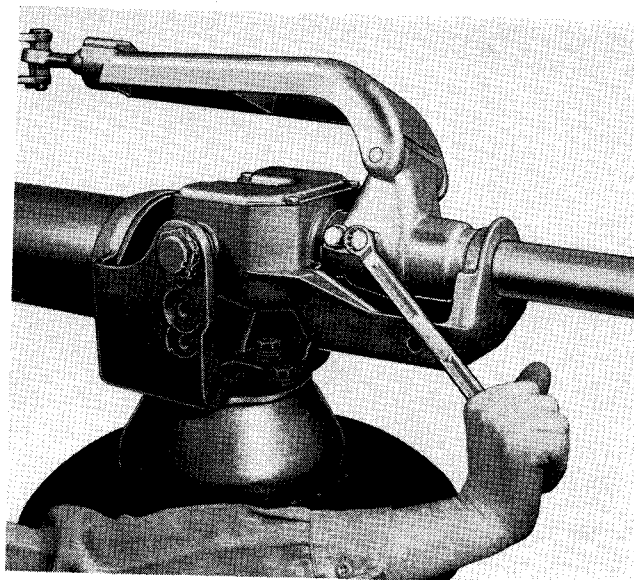

FIG. 3.
(C) If, after the adjusting nut is properly set, the blade tip does not pass freely between the contact surfaces of the break jaw, the following adjustment can be made. Loosen the two bolts at the pivot end of the blade. Refer to Fig. 3 for location of these bolts. With these bolts loose, the blade may be rotated about its axis a small amount in either direction. This will change the angle of the blade tip as it enters the break jaw. Do not change this angle any more than absolutely necessary.